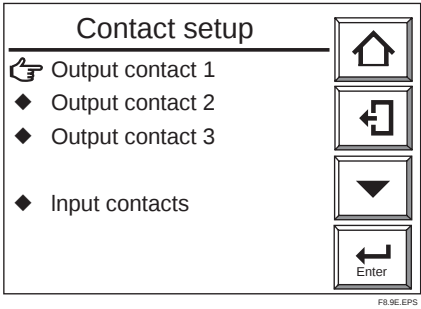

Figure 8.9 Contact Setup Display
- (1) Press the Setup key in the basic panel display to display the Execution/Setup display.
- (2) Select Setup in the Execution/Setup display. The “Commissioning” (Setup) display then appears.
- (3) Select the Contact setup in the “Commissioning” (Setup) display. The Contact setup display shown in Figure 8.9 then appears.